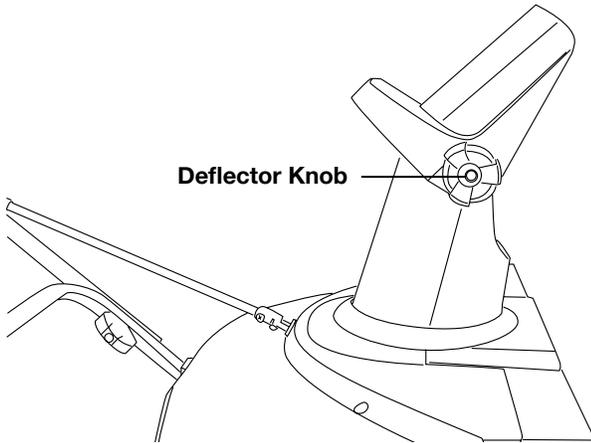

Figure 20
- The chute deflector on the top of the discharge chute controls the height of the snow stream. Loosen the knob to raise or lower the deflector to the desired height of snow you wish to throw. Tighten the knob to secure the deflector (Fig. 20).
- Do not overtighten the knobs on the chute deflector (Fig. 20).